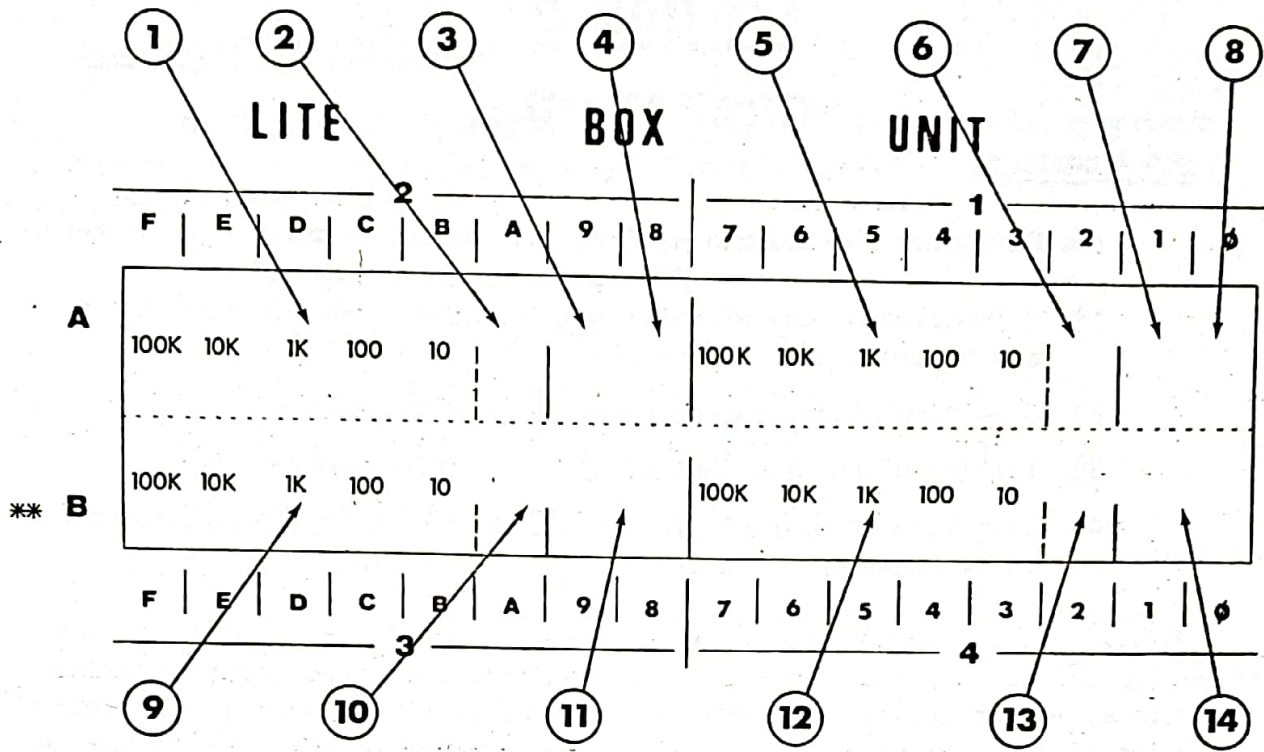

Fig. 1.6
2. Lite Box Display (see Fig. 1-6)